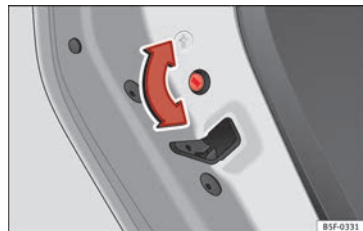

Fig. 134 Childproof lock on the left hand side door.
- With the door open, rotate the groove in the door using the ignition key, clockwise for the left hand side doors » Fig. 134 and »
- With the door open, rotate the groove in the door using the ignition key, anti-clockwise for the left hand side doors » Fig. 134 and clockwise for the right hand side doors.